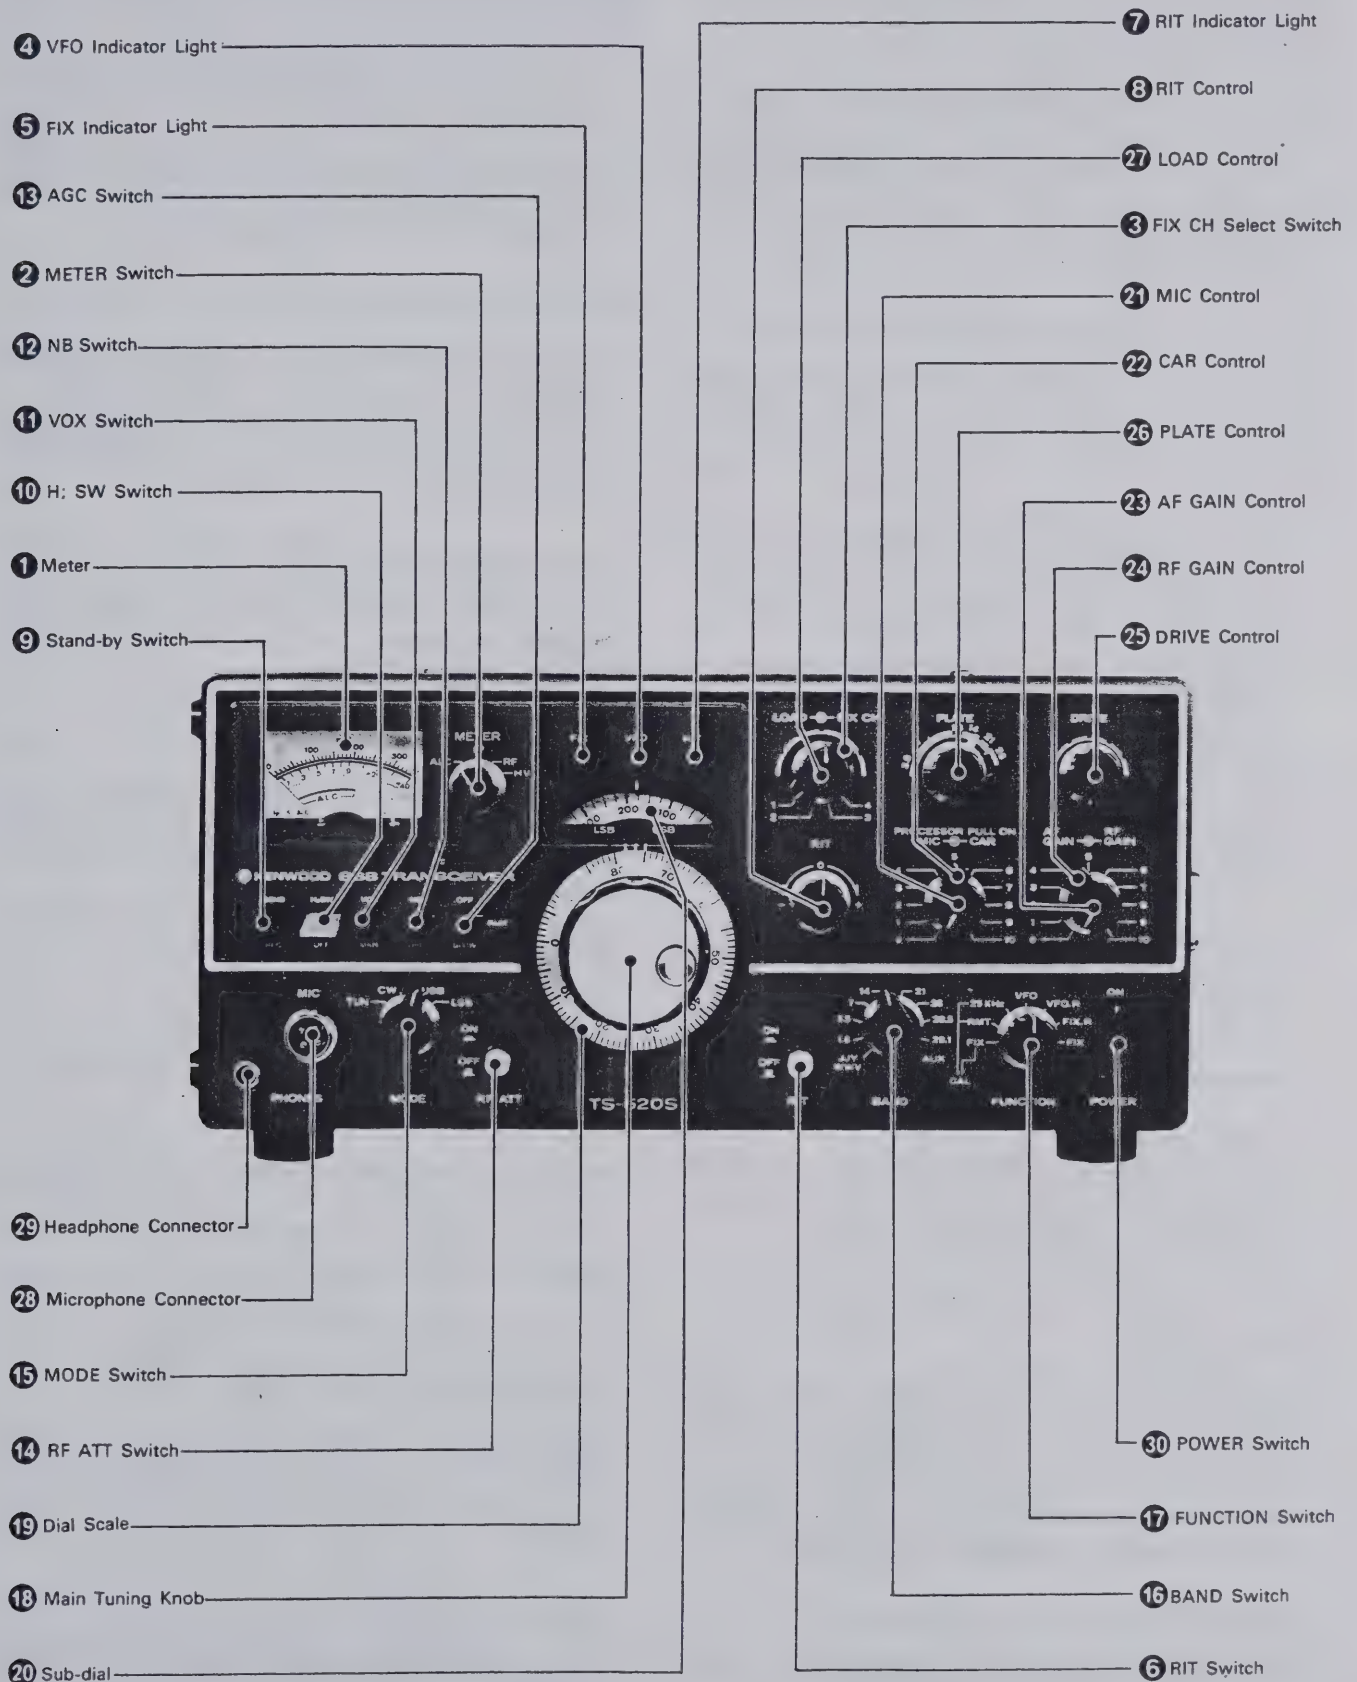

Fig. 5 Front Panel Controls
3.1 FRONT PANEL CONTROLS (See Figure 5)
■ METER (① on Figure 5)
■ METER SWITCH (② on Figure 5)
■ CH. (FIXED CHANNEL) SELECT SWITCH (③ on Figure 5)
■ VFO INDICATOR LIGHT (④ on Figure 5)
■ FIX (FIXED CHANNEL OPERATION) INDICATOR LIGHT (⑤ on Figure 5)
■ RIT SWITCH (⑥ on Figure 5)
■ RIT INDICATOR (⑦ on Figure 5)
■ RIT CONTROL (⑧ on Figure 5)
■ STAND-BY SWITCH (⑨ on Figure 5)
■ H. SW (Heater) SWITCH (⑩ on Figure 5)
■ VOX SWITCH (⑪ on Figure 5)
■ NB SWITCH (12 on Figure 5)
■ AGC SWITCH (13 on Figure 5)
■ RF ATT SWITCH (14 on Figure 5)
■ MODE SWITCH (15 on Figure 5)
■ BAND SWITCH (16 on Figure 5)
■ FUNCTION SWITCH (17 on Figure 5)
■ MAIN TUNING KNOB (18 on Figure 5)
■ DIAL SCALE (19 on Figure 5)
■ SUB-DIAL (20 on Figure 5)
■ MIC CONTROL (PROCESSOR PULL ON) (21 on Figure 5)
■ CAR CONTROL (22 on Figure 5)
■ AF GAIN CONTROL (23 on Figure 5)
■ RF GAIN CONTROL (24 on Figure 5)
■ DRIVE CONTROL (25 on Figure 5)
■ PLATE CONTROL (26 on Figure 5)
■ LOAD CONTROL (27 on Figure 5)
■ MIC CONNECTOR (28 on Figure 5)
■ PHONES JACK (29 on Figure 5)